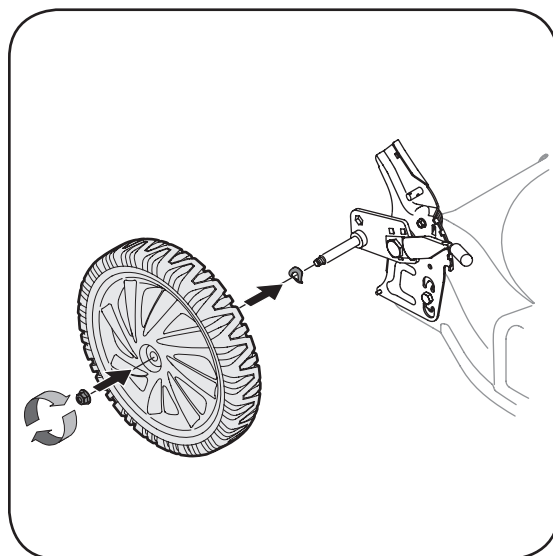

Figure 3-1: Attach wheels.
- b. Remove lock nut and washer from pivot arm assembly, Figure 3-1. (On select models, these may be included separately in a plastic bag).
- c. Slide washer followed by the wheel (both with hollow side in) onto pivot arm, Figure 3-1.